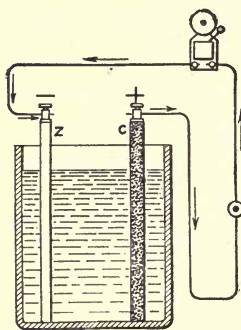

FIG. 74.—Simple Voltaic Cell.
**207. Simple Voltaic Cell.**—The voltaic cell (Fig. 74) consists of a strip of zinc and a strip of copper in a glass jar